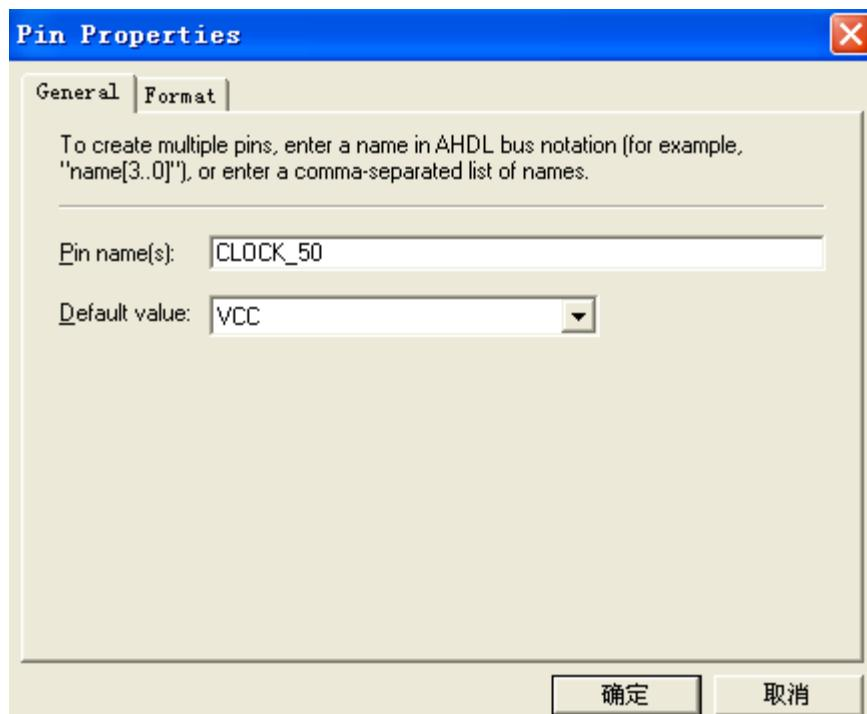

Figure 3-19 Change the input port name
- f. Change the pin name by double-clicking pin_name and typing CLOCK_50 (see Figure 3-19). This name correlates to the oscillator clock that is connected to the FPGA.